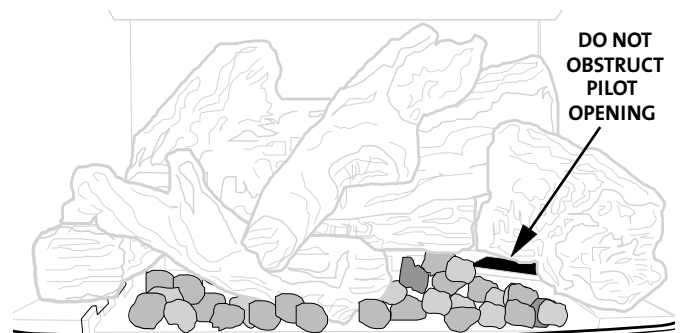

Figure 37. Install Ember Stones
**TO INSURE PROPER BURNER FUNCTION, DO NOT OBSTRUCT THE PILOT ASSEMBLY AND BURNER SKIRT OPENINGS WITH EMBER STONES. KEEP EMBERS AWAY FROM PILOT CARRY-OVER PORTS. See fig. 37**